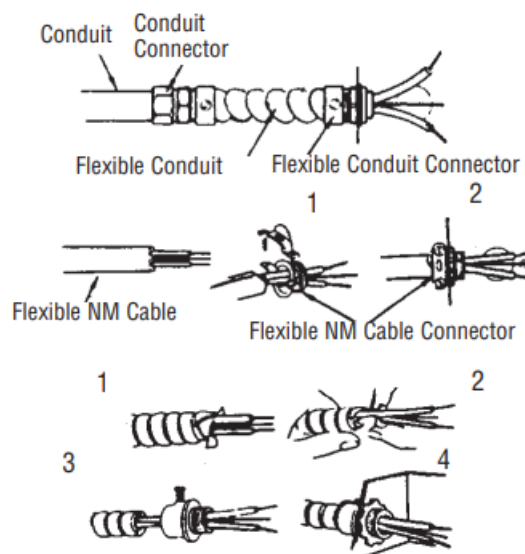

Figure 2 - Connectors, cable, and hardware used to wire the UH724STA
NOTE: For certain applications, conduit may be required (see Figure 2). Check local electrical codes. If wiring is run in conduit, be sure there is enough flexible conduit to allow the heater to be turned if necessary.
2. Attach the cable connectors to the unit (See Figure 2) and slide the 8 gauge wire through the cable connector. Pull enough wire through the connector to work with when making the connections.